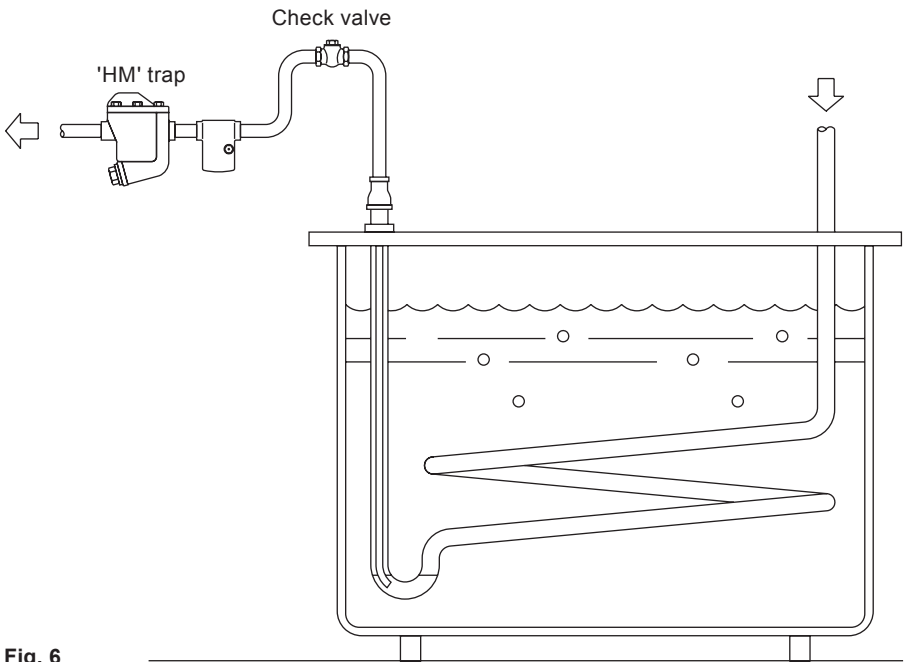

Fig. 6
- 3.8** If the trap has to be installed at a higher point than the drainage point then a small bore riser into a 'U' seal should be used. A check valve should be fitted before the trap to prevent the loss of the internal waterseal. See Fig. 6.